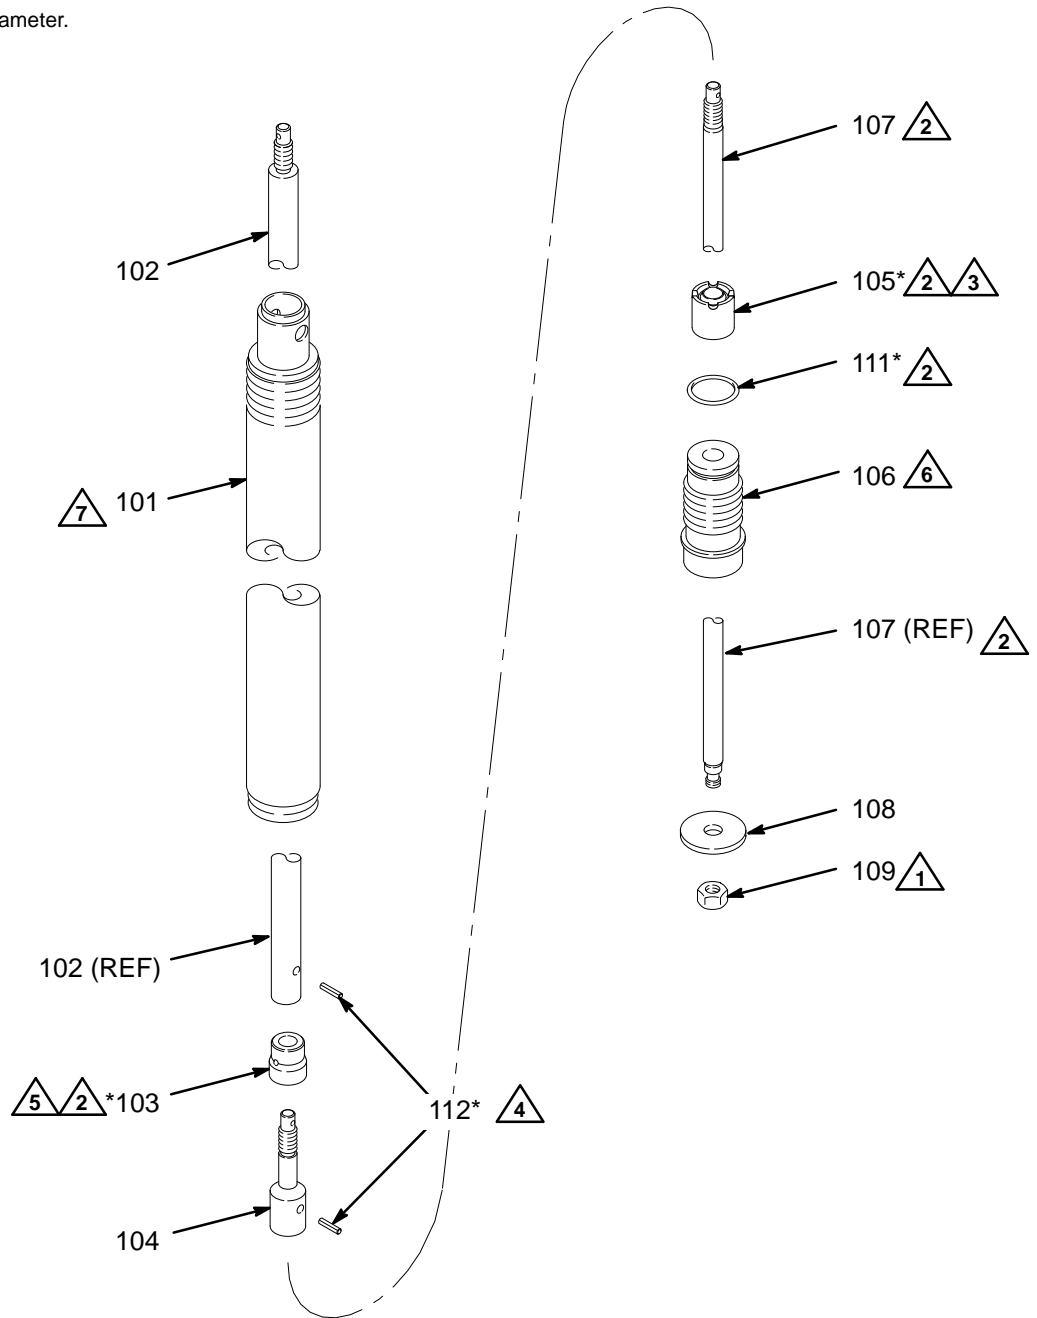

Fig. 9
1. Disconnect the displacement pump (100) from the air motor (1), as explained on page 15.
2. Unscrew the packing retainer (106) from the pump cylinder (101). Pull the entire pump assembly out of the bottom of the cylinder. See Fig. 9.
3. Drive the pin (112) out of the connecting rod (102) and piston (104). Unscrew the piston from the rod. Slide the seal (103) off the piston.
4. Drive the pin (112) out of the piston (104) and priming piston rod (107). Unscrew the rod.
5. Slide the intake seal (105) off the rod (107). This may be difficult because there is friction between the seal and rod.
6. Slide the packing retainer (106) off the rod (107). Remove the o-ring (111) from the packing retainer.
7. Examine the o-ring (111) and priming piston (108) for scoring or damage. It is normal for the piston to show some movement on the rod. If either parts needs replacement, go to step 8.
8. If the rod (107) or the priming piston (108) needs to be replaced, insert a punch in the pin hole at the top of the rod to hold it steady. Unscrew the nut (109), and remove the priming piston. **If 107 or 108 do not need to be replaced, leave assembled.**
1. If the priming piston (108) was removed from the priming piston rod (107), reinstall it on the bottom threads of the rod (the end without a pin hole) and secure with the nut (109). Torque to 35 to 45 in-lb (4.0 to 5.1 N-m). Lubricate the rod. See Fig. 9.
2. Lubricate the o-ring (111*) and install it on the packing retainer (106). Slide the retainer onto the rod (107), with the o-ring at the top. Lubricate the intake seal (105*) and slide it onto the rod, with the flat side facing the packing retainer. There should be friction between the seal and the rod. If there is very little or no friction, replace the rod or the seal. It is not necessary to slide the seal all the way down to the retainer.
3. Screw the piston (104) onto the rod (107) until the pin holes align. Install the pin (112*). Be sure that the pin is flush or below the surface of the piston on both sides.
4. Lubricate the seal (103*) and install it on the piston (104), with the large bevel facing the piston.
5. Screw the connecting rod (102) onto the piston (104) until the pin holes align. Install the pin (112*). Be sure that the pin is flush or below the surface of the connecting rod on both sides.
6. Lubricate the inside of the cylinder (101). Slide the rod assembly into the bottom of the cylinder. There may be a lot of friction, but do not use a hammer or rubber mallet to drive the assembly, to avoid damaging the parts.
7. Screw the packing retainer (106) into the cylinder (101). Using a socket wrench or crow's foot wrench, torque to 15 to 20 ft-lb (20 to 27 N-m).
8. Continue to push the rod assembly up as far as possible. Reconnect the displacement pump (100) to the air motor (1) as explained on page 15.